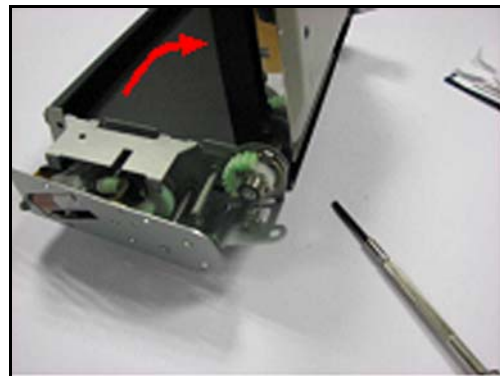

Figure 13
15. Carefully move the display screen to the open position (see Figure 13).